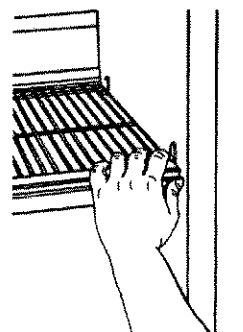

Figure 27
- Remove shelf by gently pulling on right-side wall snap-lock tabs to release. Lift right side of shelf. See Figure 27.